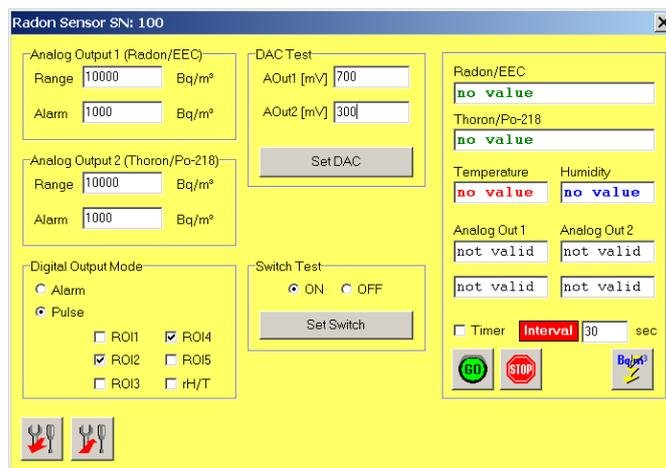

Figure 5.6.: Additional setting options for the *Analog Sensors*
-  Opens the dialog window shown in Figure 5.6 for the advanced setup and test functions of the Analog Sensor.